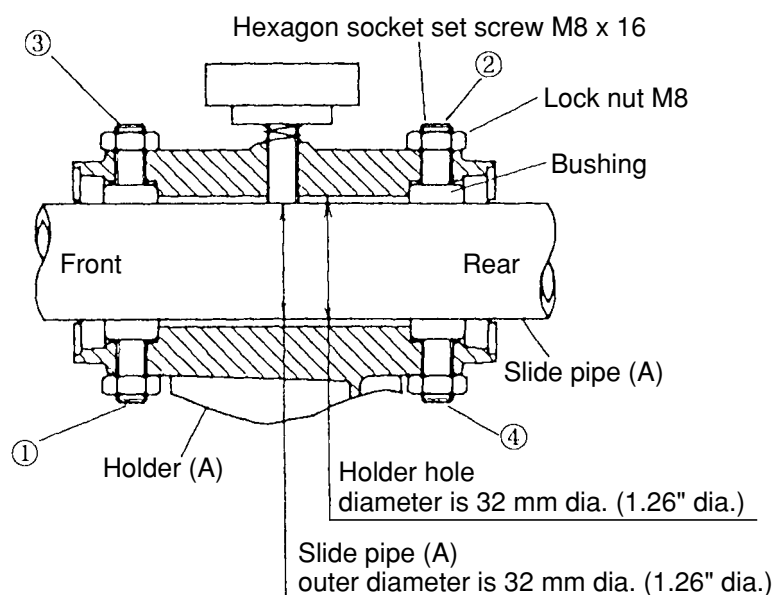

Fig. 49
- (1) Loosen the four lock nuts M8, and loosen each of the four hexagon socket set screws M8 x 16 (① to ④ in Fig. 49). This will free slide pipe (A) so that it comes to rest on the lower surface of the holder (A) hole [32 mm (1.26") dia.].
- (2) Gently tighten hexagon socket set screw M8 x 16 ① until it lightly contacts slide pipe (A), then turn it approximately 120° and lock it in position by tightening the lock nut M8. (This positions slide pipe (A) in the center of the holder in holder (A).)
- (3) Next, tighten and adjust hexagon socket set screw M8 x 16 ② so that slide pipe (A) will slide smoothly, and lock it in position with the lock nut M8. [The pressing force required to slide pipe (A) should be within 2 to 3 kg. (4.4 to 6.6 lbs.)]